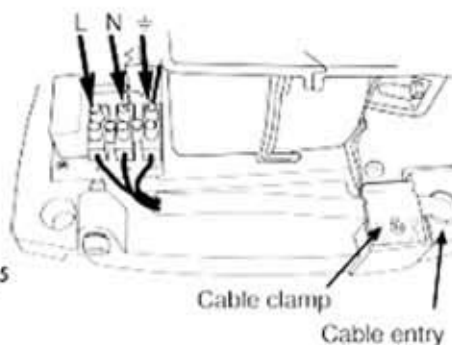

Fig.5
- * Feed the supply cable through the cable entry hole in the backplate - see fig.5.
- * Secure the cable beneath the cable clamp - see fig.5.